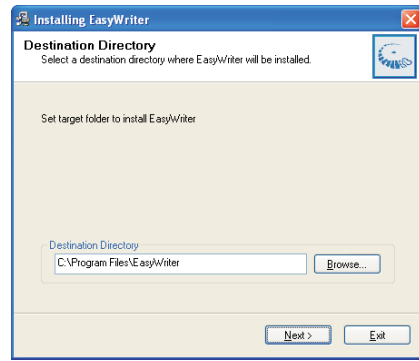

Fig. 4
- Step 4 : Double click the EasywriterV2.09a_user.exe icon to install the Application as Fig. 4.